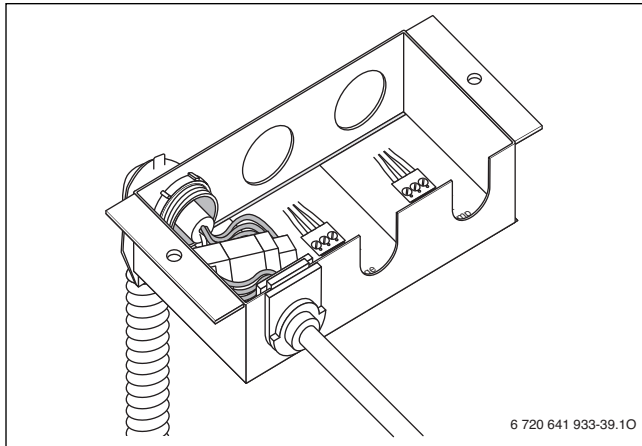

Fig. 57 Cable connected (mains power supply)
- Insert cable into the junction box as shown in Fig. 57.